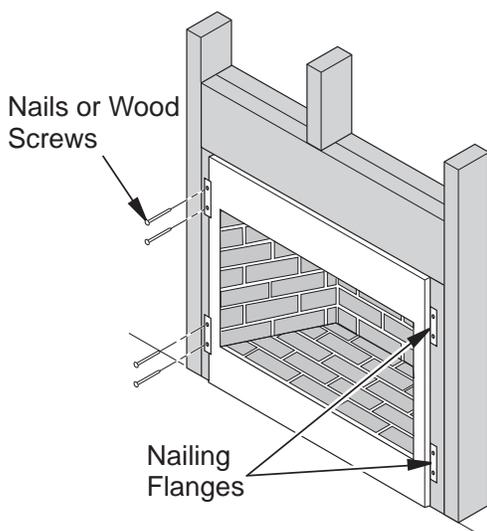

Figure 9 - Attaching Firebox to Wall Studs (Model May Vary From Illustration)
5. Attach firebox to wall studs using nails or wood screws through holes in nailing flange (see *Figure 9*).